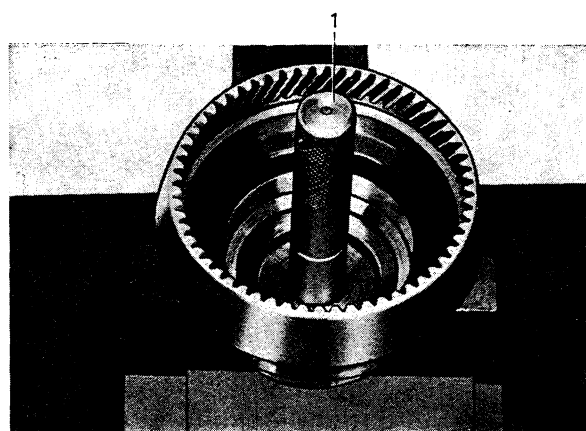

Fig. 4-42. Fitting bush, output shaft
1. Push the bush on to the output shaft with drift SVO 2417, see Fig. 4-42. Press the front bearing to the output shaft with drift SVO 2412.